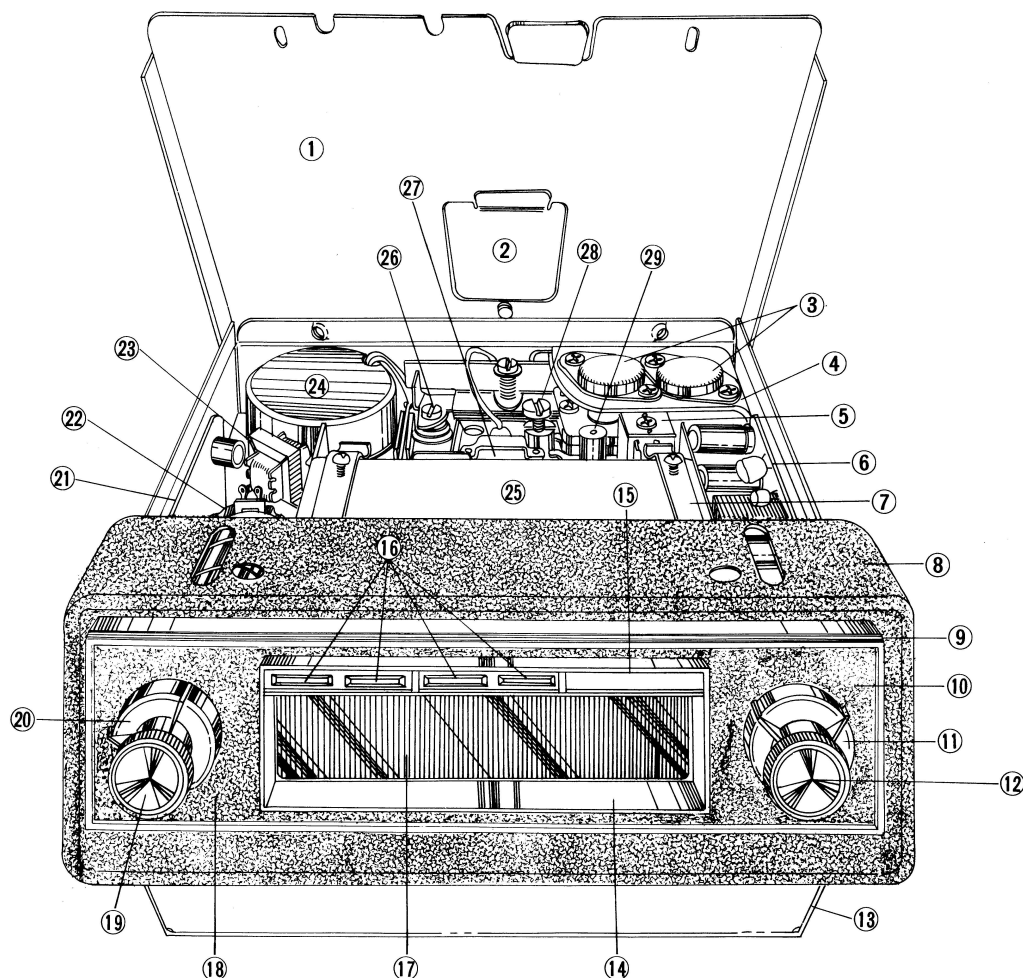

Fig. 1
* **PART NAME** (Refer to Fig.1)